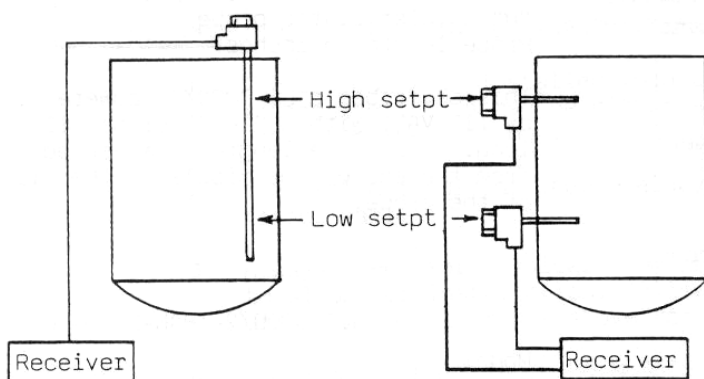

Fig 1A
1. Sense 2 points along a vertically mounted probe and maintain a level between them. (Fig 1A)